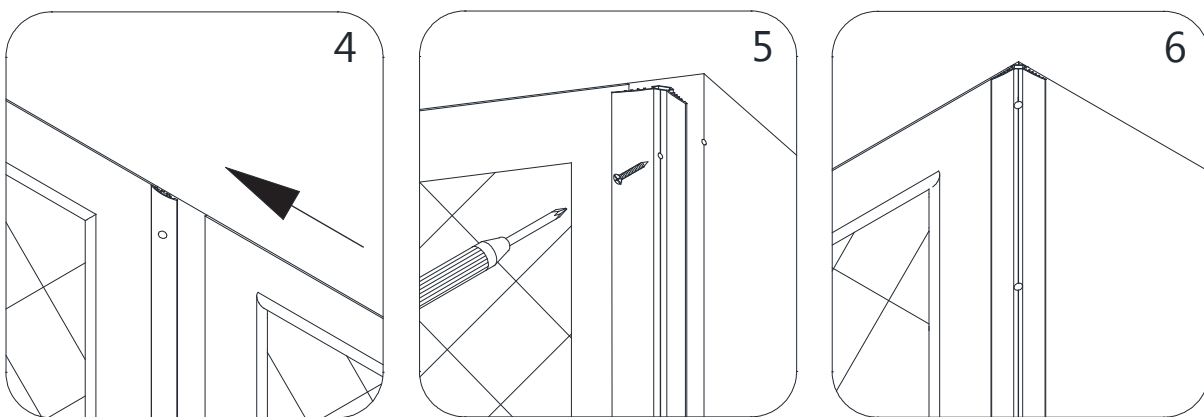

Fig 12
12. Repeat Step#10 and Step#11 to install the right **Back Panel (#02)** to the right side of the back wall. (**Fig 12**)